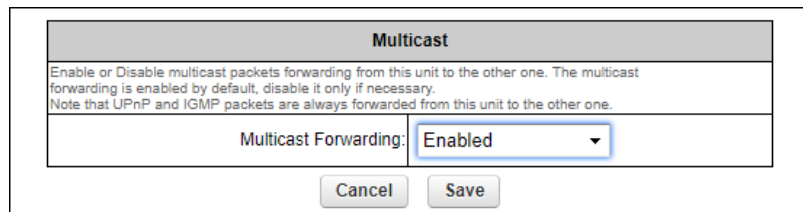

Figure 39. Multicast dialog (Bridge mode)
2. Click the **-multicast** link under **ADVANCED SETTINGS** in the left-hand settings menu (Figure 39 (page 99)).